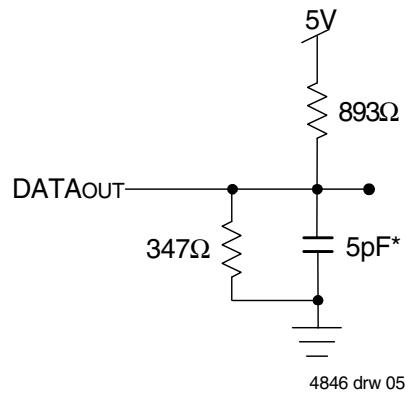

Figure 2. Output Test Load
1. Transition is measured 0mV from Low or High-impedance voltage with the Output Test Load (Figure 2). This parameter is guaranteed by device characterization, but is not production tested.
1. Transition is measured 0mV from Low or High-impedance voltage with the Output Test Load (Figure 2).
3. Transition is measured $\pm 200mV$ from Low or High-impedance voltage with the Output Test Load (Figure 2).